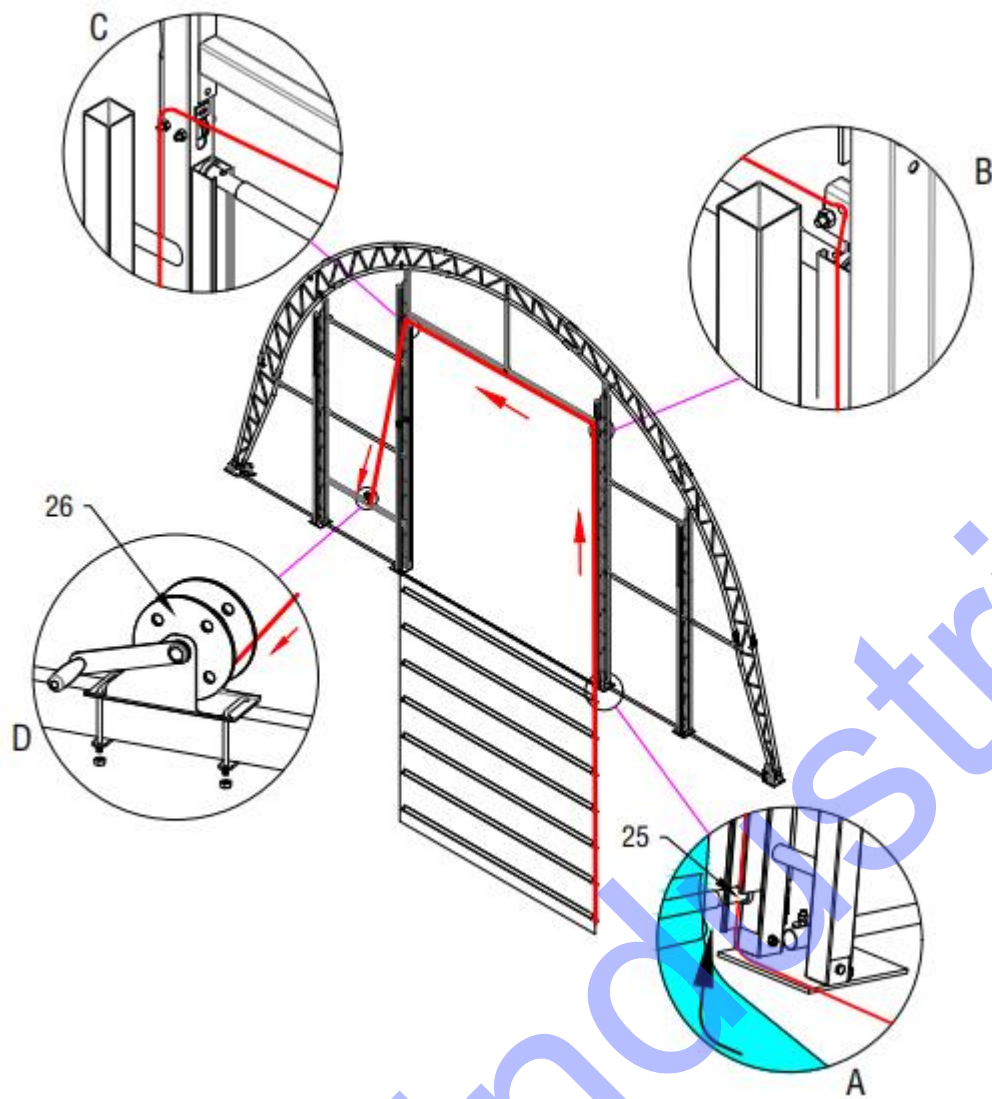

Figure 19
4. When you close the door, we can use the Lock steel wire for door(No.26) and Lock steel wire for the wrench handle to fix.(Figure 19)